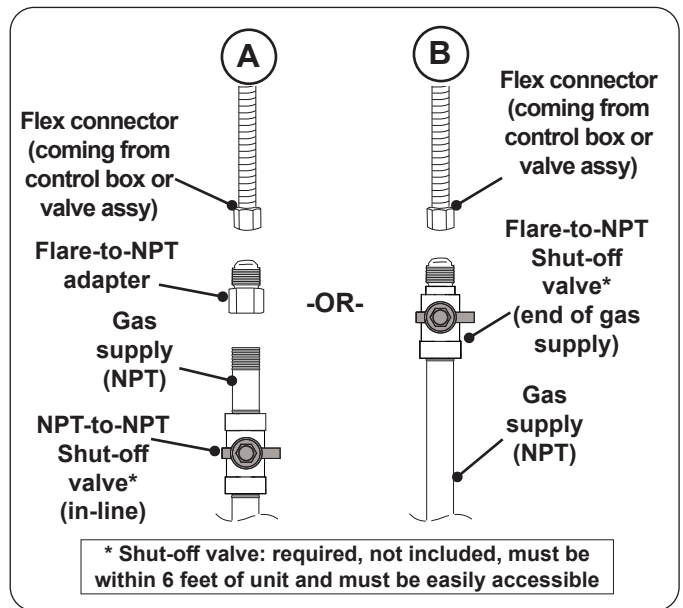

Fig. 40-1 Connecting to a gas line
- Install the supplied flare-to-NPT adapter to the gas supply (NPT) using a pipe joint compound resistant to all gasses (see Fig. 40-1, A). Tighten securely.
- Connect the flex connector to the adapter (see Fig. 40-1, A). Tighten securely.
- Connect the flex connector to the shut-off valve (flare)(see Fig. 40-1, B). Tighten securely.